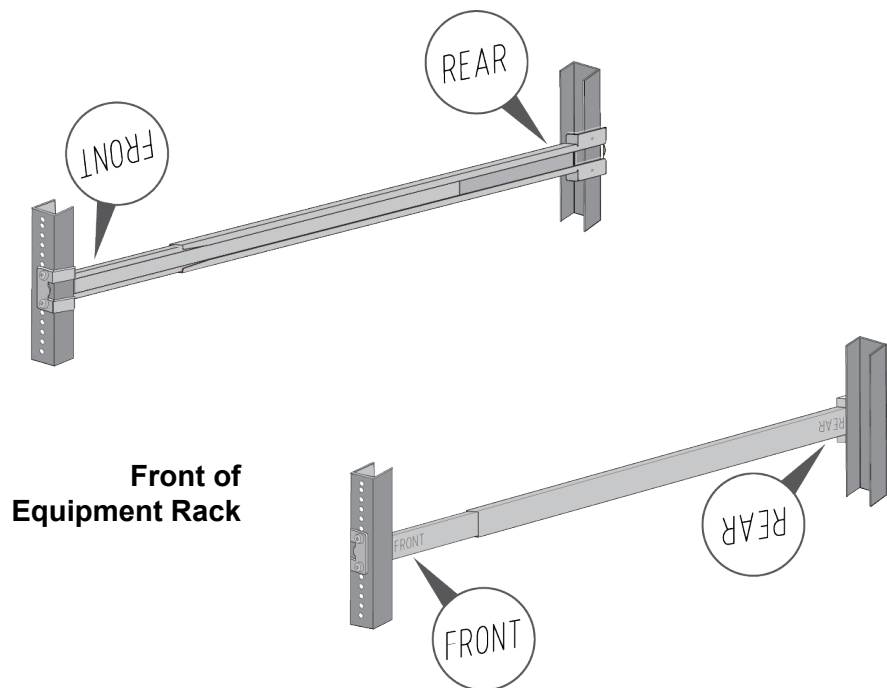

Figure 6. Installing the Outer Rails on the Equipment Rack
2. Attach the outer rails to the equipment rack using the supplied screws. Use four screws per rail. Refer to Figure 6 on page 26. Installing the switch will be easier if you leave the screws slightly loosened now and fully tightened them after the switch is installed.